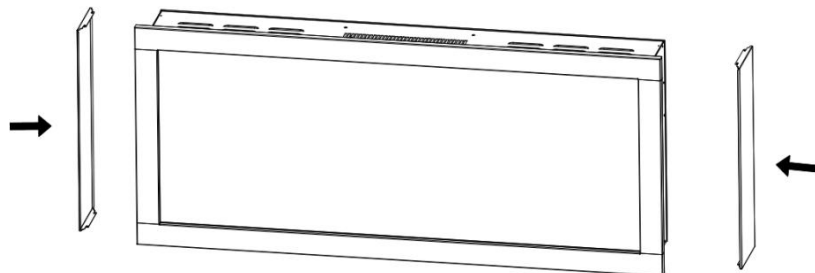

Fig. 4-4
- A. Attach the side skirt panel (**J**) to each side of firebox. (Fig. 4-4)